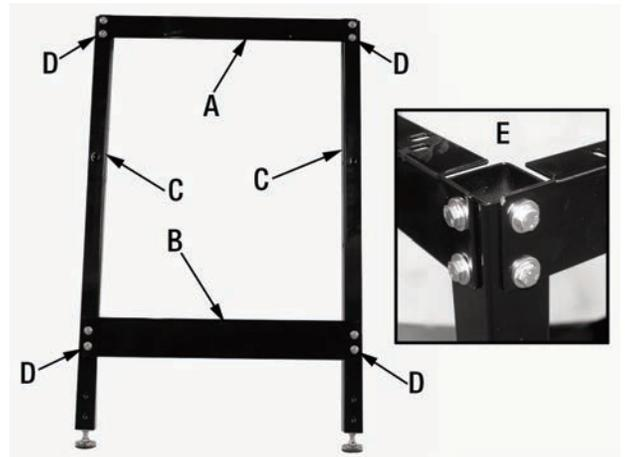

FIGURE 2
- 2) Assemble a short top cross brace (A) Fig.2 and a short lower cross brace (B) to two legs (C) using 4 hex. bolts and washers (D) for each brace.
Note: It is important that the legs be positioned in a way that the mounting holes on both faces will be positioned on the corners as shown in picture inset (E) Fig.2.